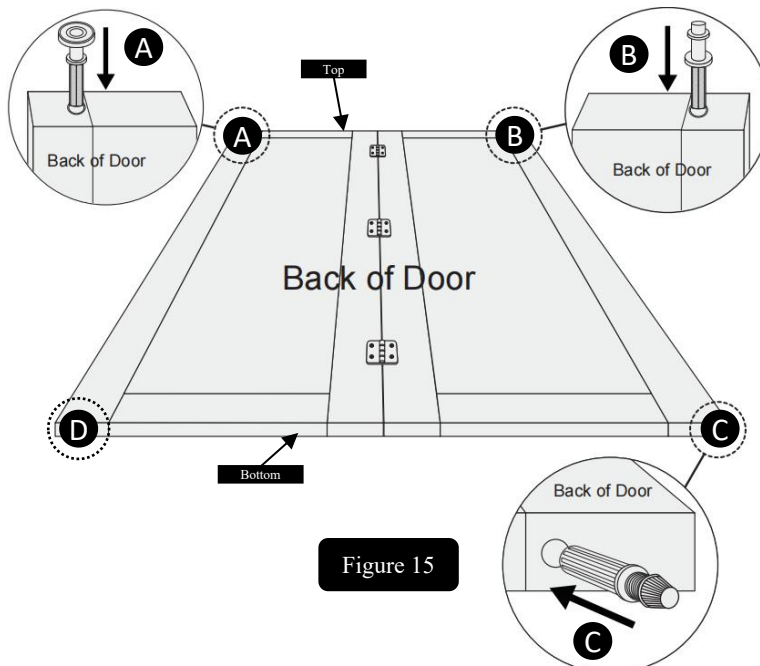
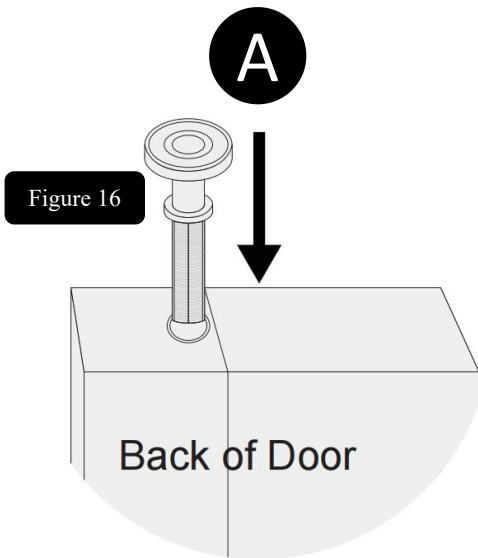
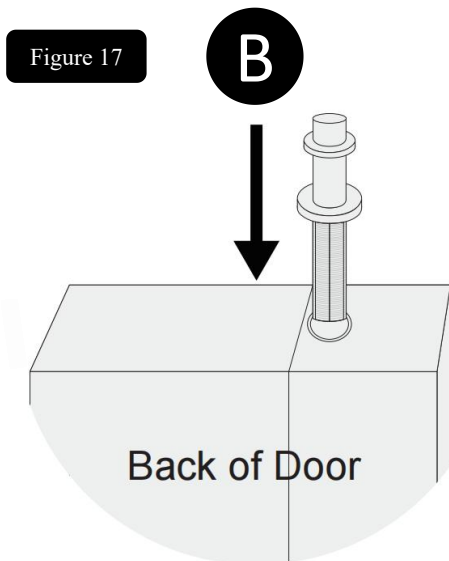
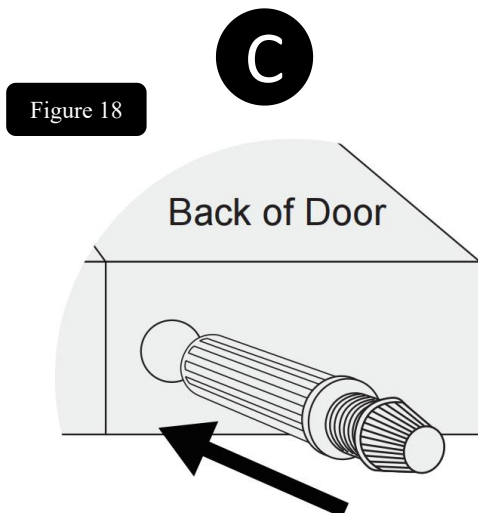

Figure 15
Figure 16
Figure 17
Figure 18
2. If it is a **left** swing door, install **guide roller** on the upper left corner "A" of the back side of the door by inserting it into the predrilled hole (Figure 15 & Figure 16).
1. If your door is a **left** swing door, install **upper pivot** on the upper right corner "B" of the back side of the door (Figure 15 & Figure 17).
1. If your door is a **left** swing door, install **bottom pivot** on the bottom right corner "C" of the back side of the door (Figure 15 & Figure 18).